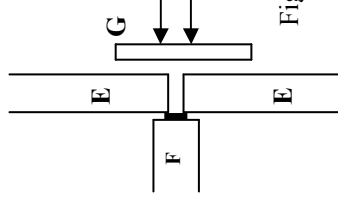

Fig 6
- 9 Fix one of the roof struts at the join of the curved beams from the outside (plain) side using the Fintel to form the joint as Fig 6 & 7.